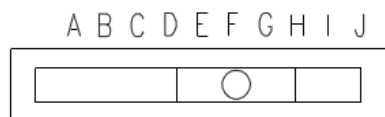

Figure 3
- Using the slide switch shown in Figure 3, select voltage and wattage as shown in Table 4 below. Each letter corresponds to a position of the switch located on the printed circuit board.